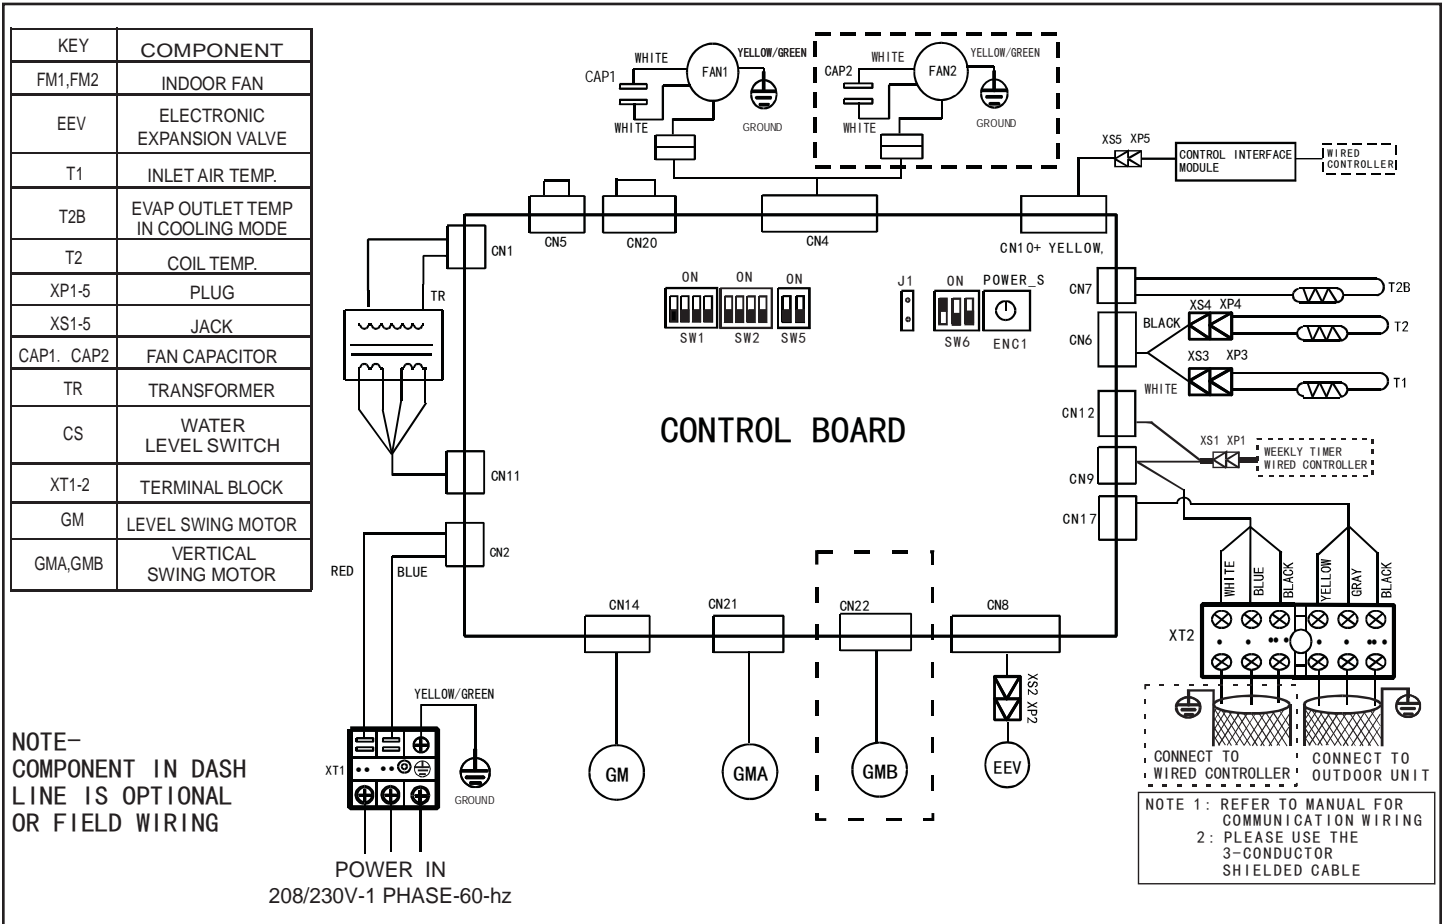

Figure 14. VCFA012-48S4-1 Wiring Diagram
7. If the indoor unit is the final unit in a group that is wired in series, install the provided resistor across terminals P and Q. See figure 14.